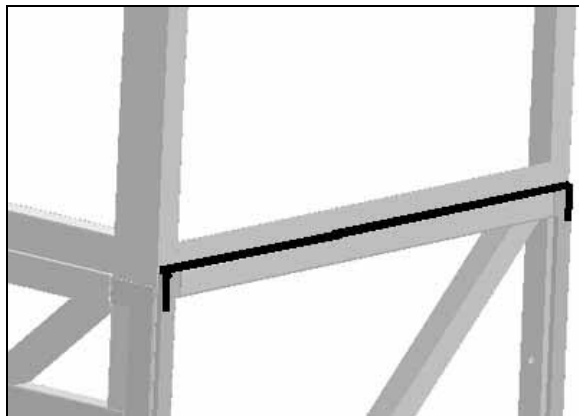

FIGURE 44 : SIDE PANEL INSTALLATION – SIKA 221 OR 252 APPLICATION ON STRUCTURE
- Inspect the Sika bead shown in FIGURE 44. If it is damaged, remove adhesive residue and apply a new 5mm diameter bead of Sika 221 or 252;